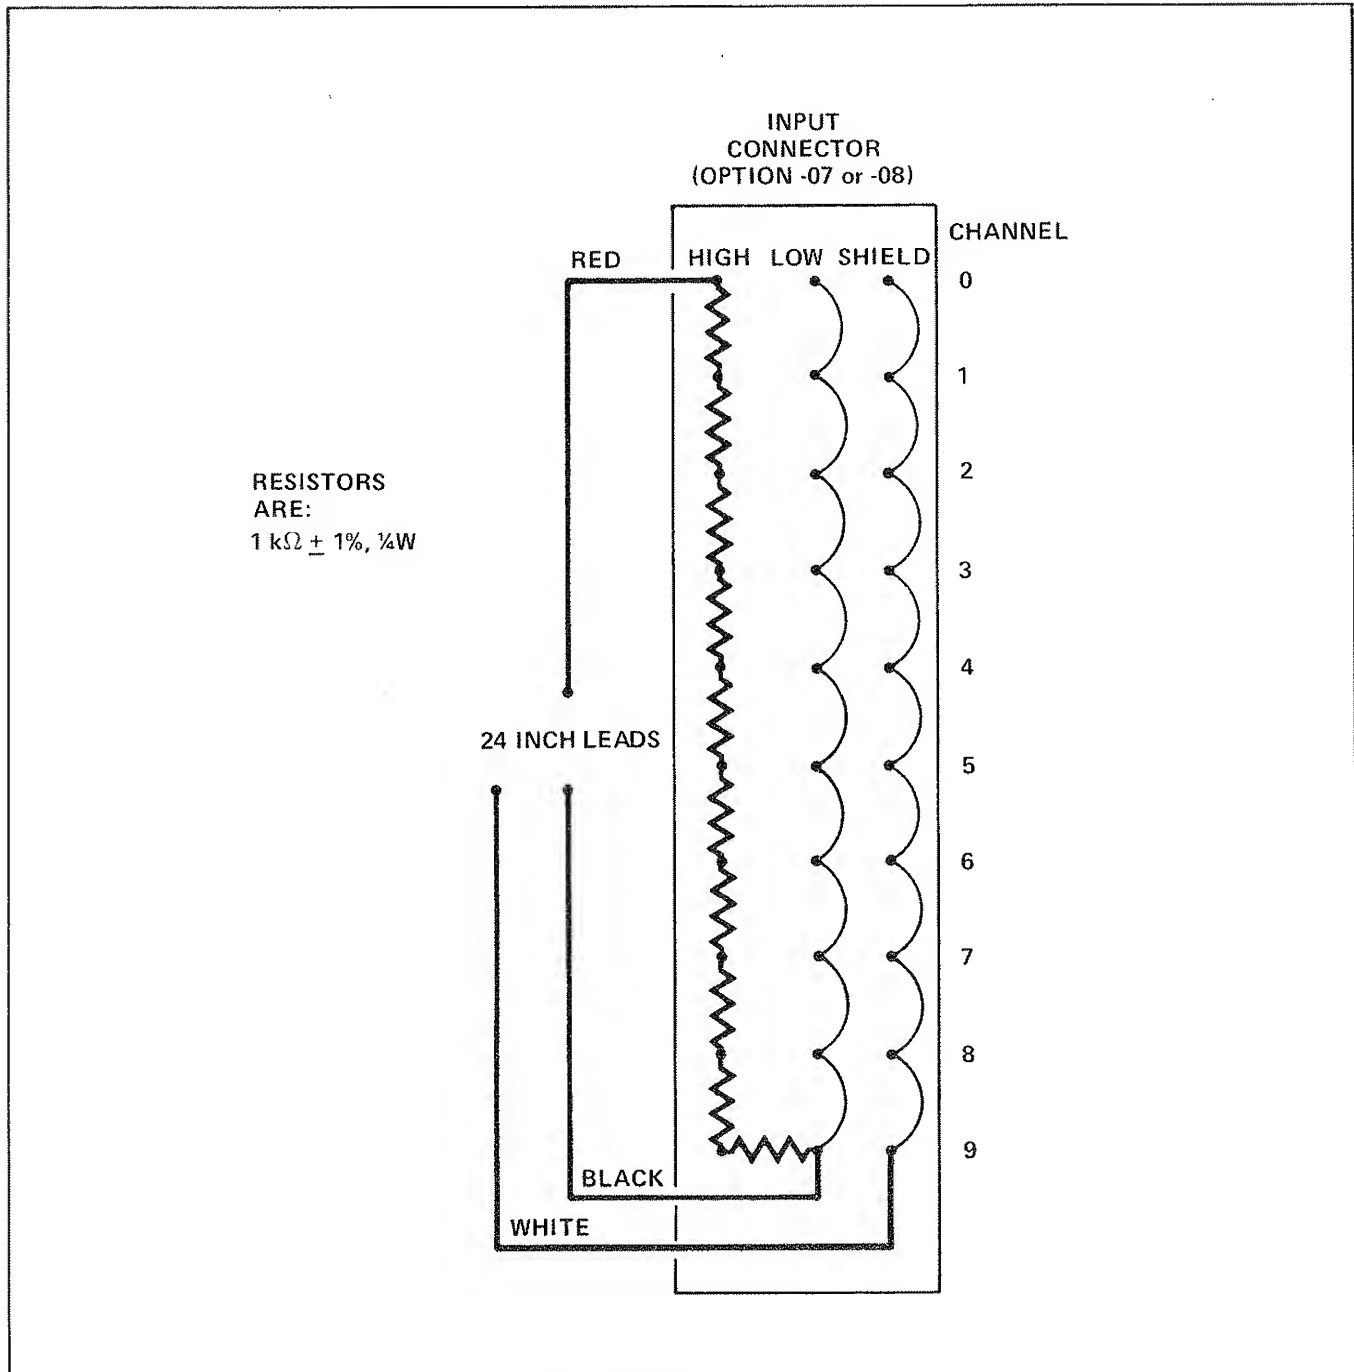

Figure 606-4. Scanner Test Cable
1. Using the resistors and the input connector specified in Table 606-2, fabricate a scanner test cable as shown in Figure 606-4.